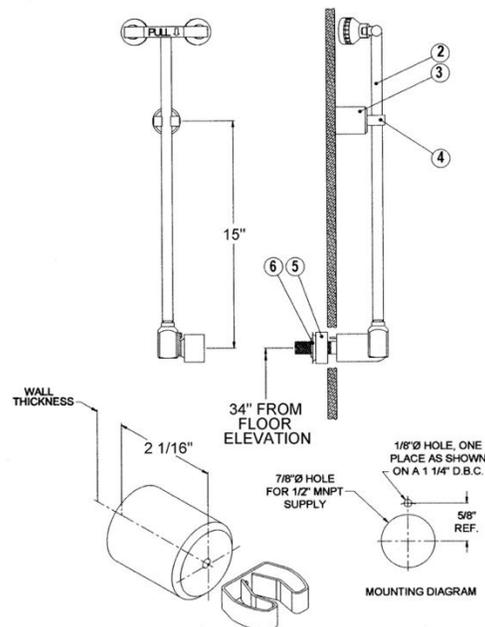

FIGURE 4
8. Thread washer and nut (#6) securely to the inlet pipe nipple. If necessary, use the mounting adapter (#5) (included) to securely attach the unit to the wall. See Figure 4 for reference.